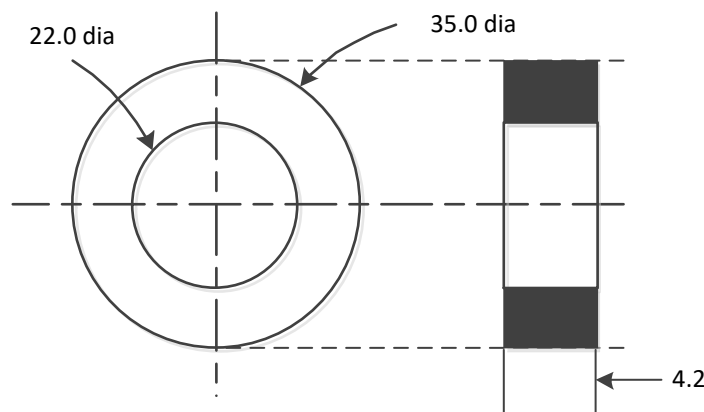

Figure 2(b) [dimensions are in mm]
- (b) Develop the form code (first five digits) in the Opitz system for the part illustrated in Figure 2(b). 06